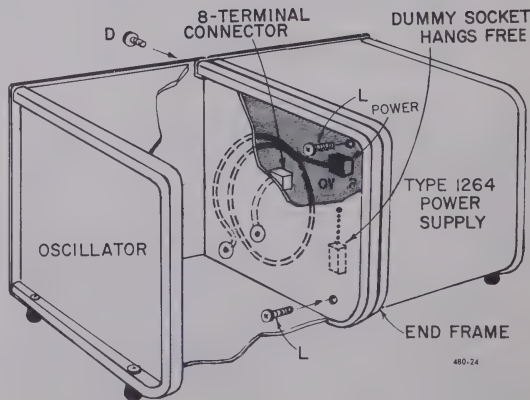

Figure 2-10.
f. Remove the dummy socket from the plug on the left-hand side of the oscillator. Plug the eight-terminal connector of the attached modulation patch cord on the power supply to the connector on the oscillator (Figure 2-10).
g. Position the oscillator above the power supply and lower it so that both instruments slide together, with the exposed ends of brackets (F) entering the spacer slots behind the front panel of the oscillator.
Form the cord into a flat coil between the side walls of the instruments as they are joined together. Figure 2-10 shows the cord position after assembly.
h. Reinstall front-panel screws (D) in the oscillator.
j. Insert two screws (L) (supplied) through the top and bottom clearance holes in the side panel of the oscillator and thread them into the matching tapped holes in the joining walls of the power supply (see Figure 2-10).